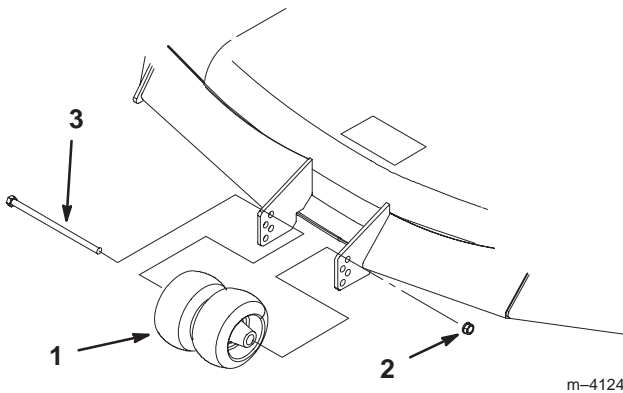

Figure 13
2. After adjusting height-of-cut, remove bolt and nut (Fig. 13).
3. Select hole so gage wheel is positioned to the nearest corresponding height-of-cut desired (Fig. 13).
4. Reinstall the bolt, center rollers and nut (Fig. 13).